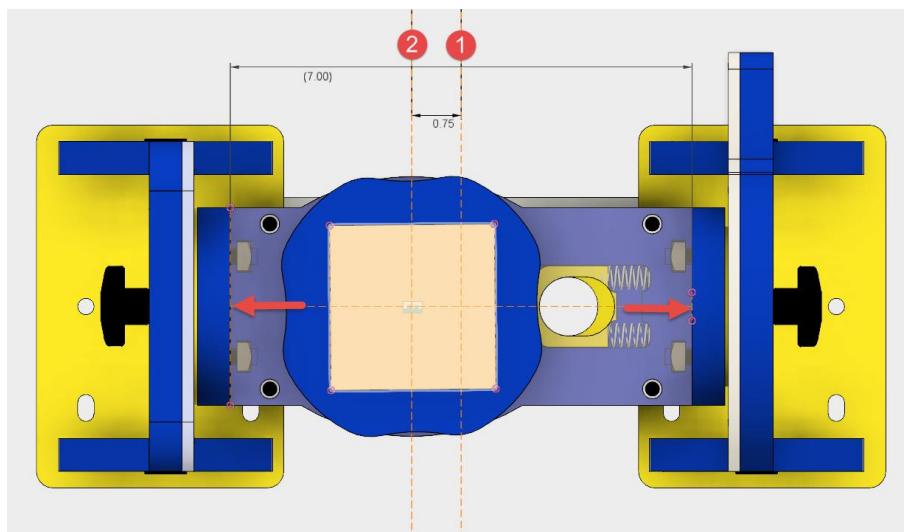

Figure 16
- 1) Touch off on the two trunnion arms as per the two red arrows (Figure 16).